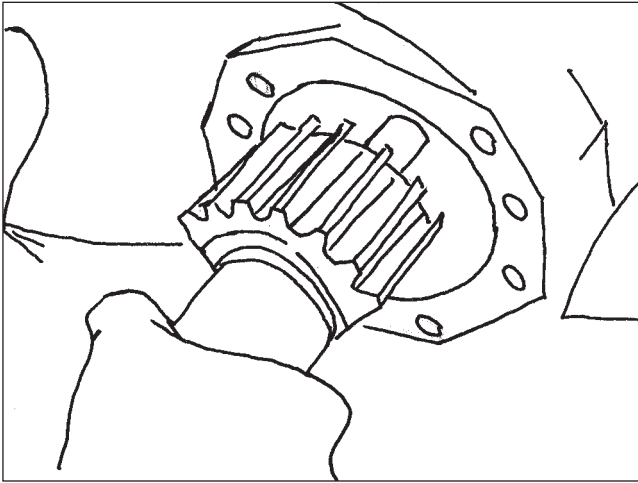

Figure 23
7. Pull the sector shaft out of the housing. Remove the seal from the housing (Figure 23).